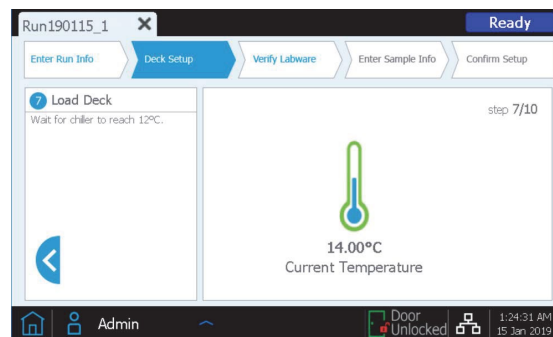

Figure 12. Step 7 of 10 of the Deck Setup screen of the Magnis NGS Prep instrument
- 07 The instrument's chiller module must reach a temperature of 12 °C before loading the Magnis instrument. If said temperature has not been reached at this point, the touchscreen will appear as shown in Figure 12. However, if the chiller has already reached the necessary temperature, this screen will not appear.